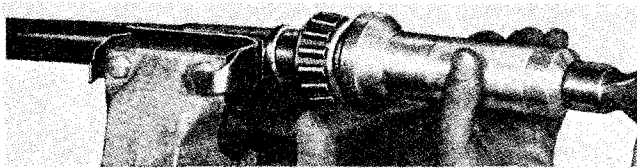

Fig. 6 Fitting hub bearing inner ring to axle shaft.
- (i) Using a special tool, drive the hub bearing inner ring on to the axle shaft, as shown in Fig. 6, and refit key.